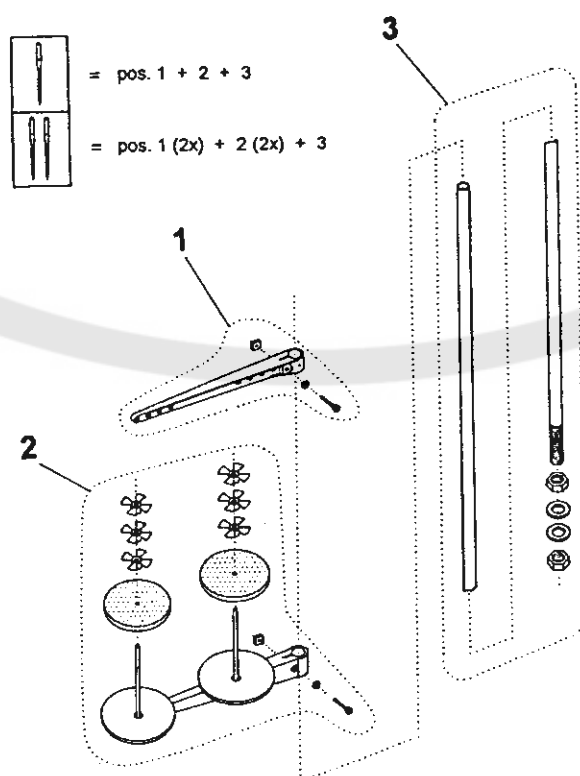

Fig. 6
Inspect the machine thoroughly and check whether it revolves freely and is adjusted correctly. Mount the bobbin stand as shown in Fig. 6 and insert it into the hole (1) - see Fig. 5.